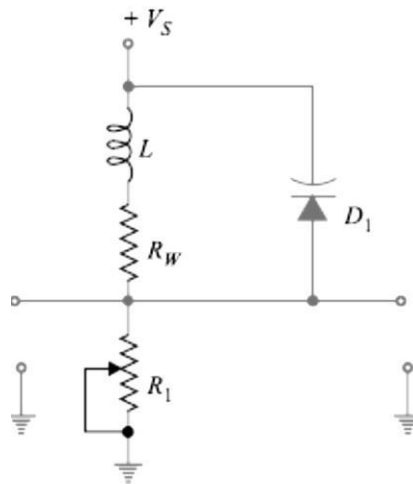

Fig. 7.23
- This makes a varactor diode ideal for use in circuits that require voltage-controlled tuning. Fig. 7.23 shows the use of varactor diode in a tuned circuit.
- The varactor and the inductor form a parallel LC circuit. For normal operation, a varactor diode is always operated under reverse bias. In fact, this condition is met in the circuit shown in Fig. 7.23.